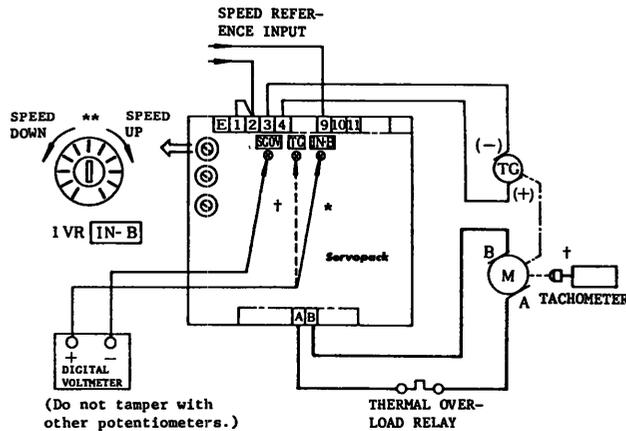

Fig. 13 Changing of Rated Reference Voltage
(b) Setting the rated reference voltage (Fig. 13)
- * With terminal 1 shortcircuited with 0 volt terminal or to 11, apply desired reference voltage across terminals 9 and 2 of Servopack (ripple voltage 6 mV or less in a range from ± 2 V to ± 10 V). In the connection shown in Fig. 13, positive input results in forward rotation, and negative input, in reverse rotation.